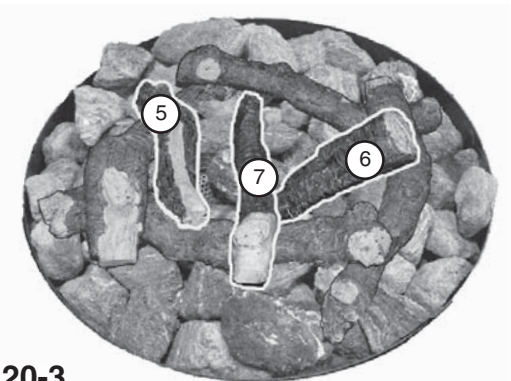

Fig. 20-3
4. Lay the remaining logs across the already positioned logs in an attractive pattern (see Fig. 20-3).